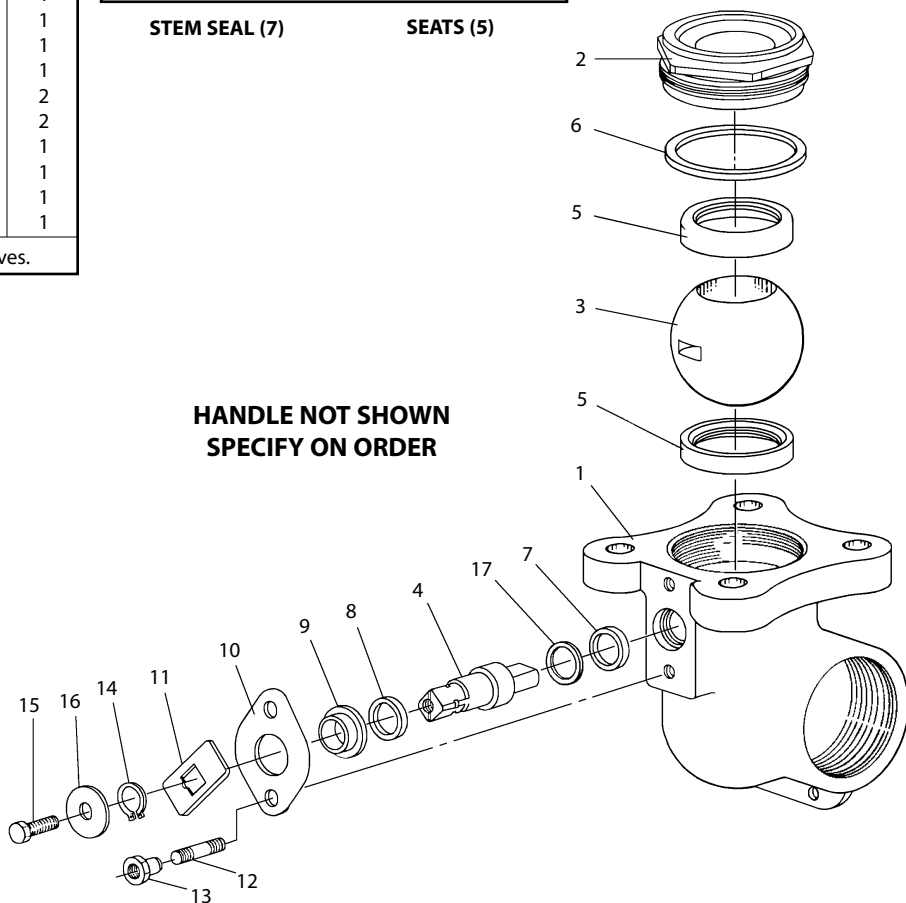

Figure 2
1. Slide the first valve seat (5) into the body (1) to below the stem opening, and tilt it into place so that the bevel surface (see drawing in Figure 2) will be adjacent to the ball (3).
2. Place the ball (3) into the valve in the open position, and adjust so that the slot faces the stem opening. Insert the stem (4) as a temporary means of holding the ball, and turn the ball to the closed position.
3. Insert the second seat (5) into the insert, again with the concave surface adjacent to the ball. Insert the body seal gasket (6) into the machined sealing area of the body.
4. Thread on the insert (2) and screw down until flange of insert is flush with body face.
5. Remove the stem, and insert the stem seal (7) with the chamfer on the I.D. facing down. Place the emergency seal (17) on top of the stem seal (emergency stem seal not used in DFRA non-fire-tested valves). Lubricate the stem with a compatible lubricant and insert it. The stem should be tapped into place gently to avoid cutting the PTFE stem seal.
6. Drop bearing washer (8) over the stem. Drop stem bearing (9) over the stem. Attach bonnet plate (10) with bonnet studs (12) and nuts (13).
7. Tighten the bonnet nuts (13) evenly until the heads contact the bonnet plate (10); then tighten another 3/4 of a turn.
8. Attach indicator stop (11) with retaining ring (14).
10. Attach the handle (not shown) using washer (16) and screw (15).